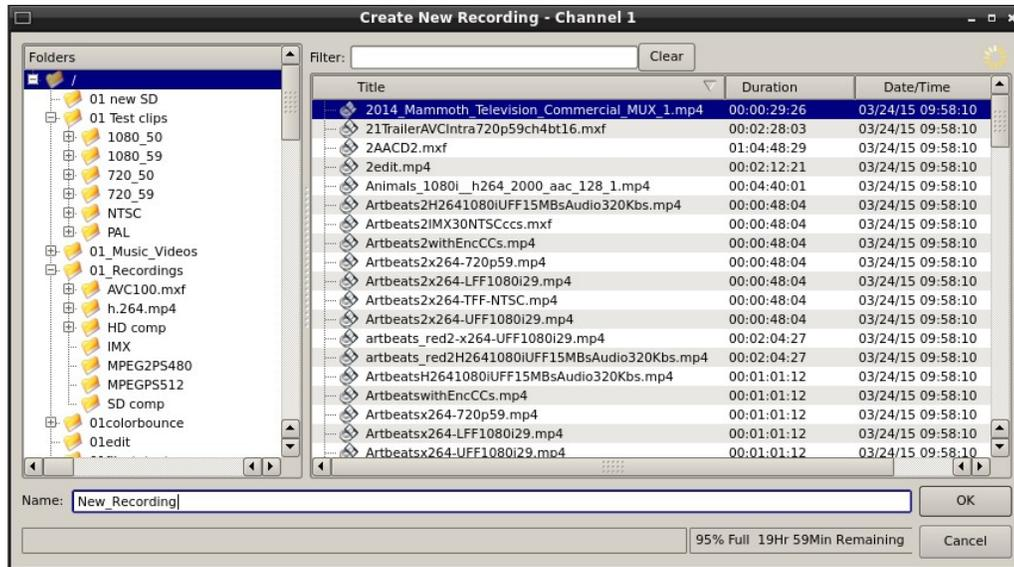

Figure 9 - Channel 1 Create New Recording dialog
- From the Channel 1 Transport Window, Select **FILE>NEW**. The dialog of **Figure 9** below appears.